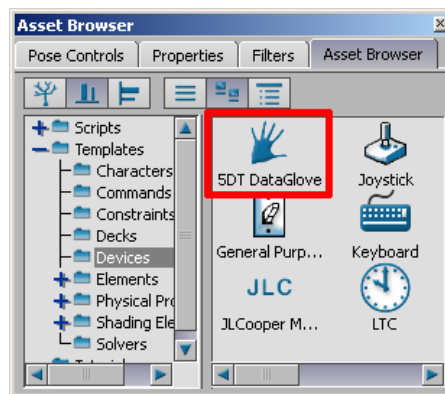

Figure 27 - Verifying that the 5DT Data Glove Plugin has been Installed
- Verify that the driver is installed by clicking on the Asset Browser tab in the Asset Browser window. Then from Templates select Devices. The installed driver should be visible as shown in the red rectangle in Figure 27 below.